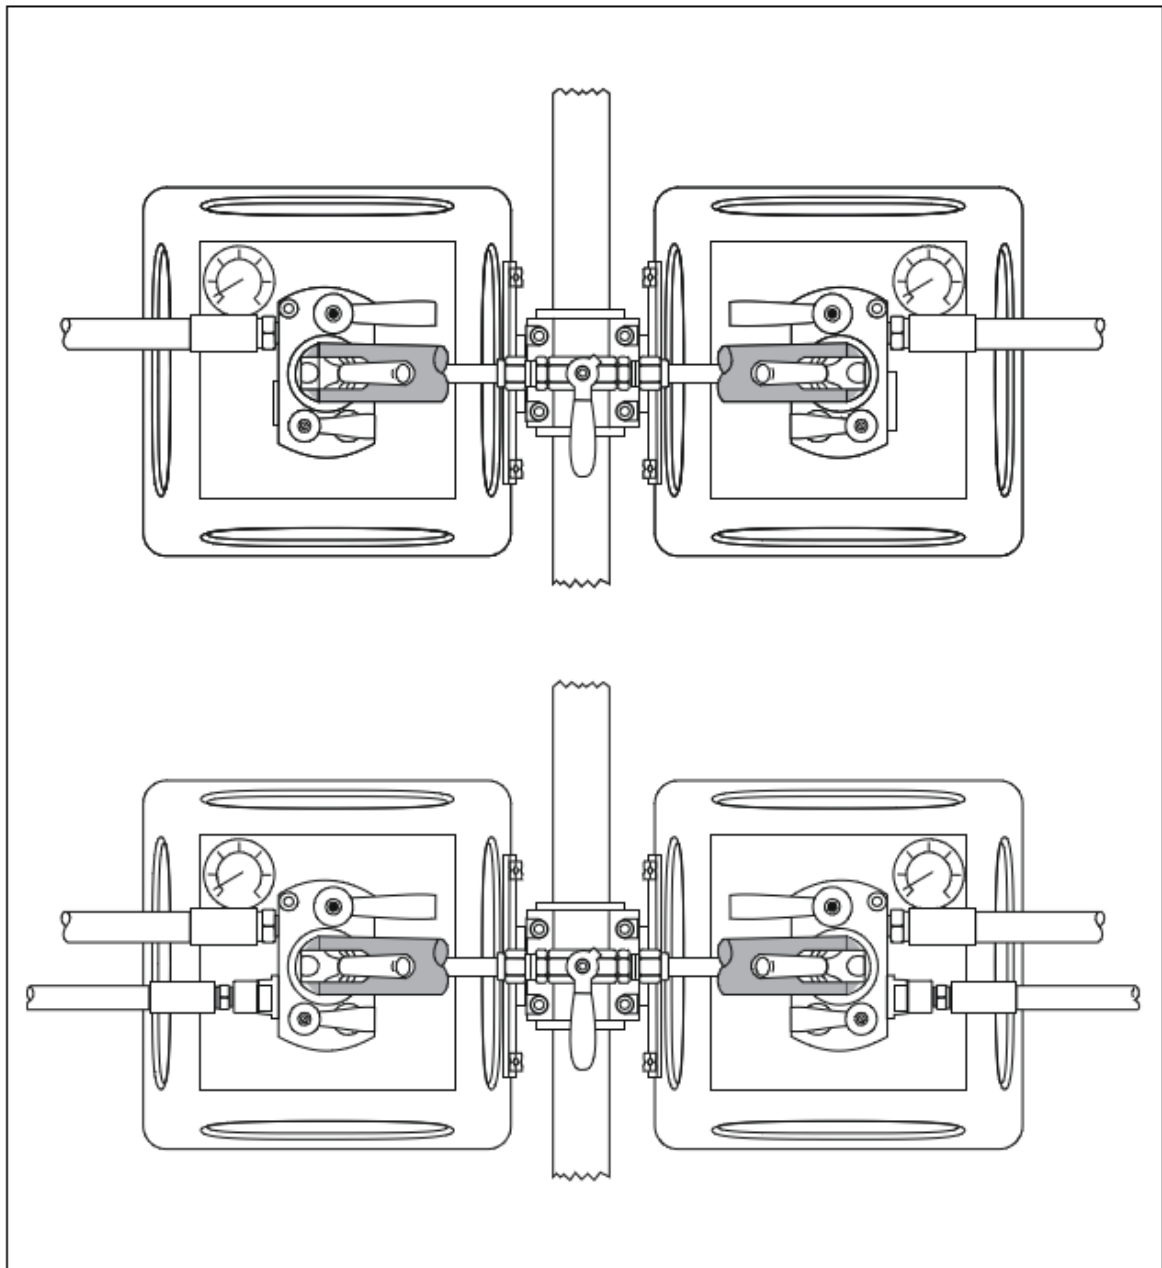

FIG. 6.14
- 3) Loosen one side of the crossflow valve by completely loosening one swagelok fitting (refer to FIG. 6.14).